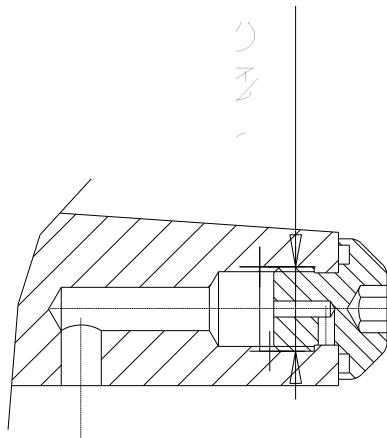

Fig. 9
- Open the 1/2" gas plug placed on the bushing flange (fig. 9). For this operation use a hexagonal wrench of 10 mm;
A 1/2" gas plug is placed on the bushing's flange (fig. 9) to: